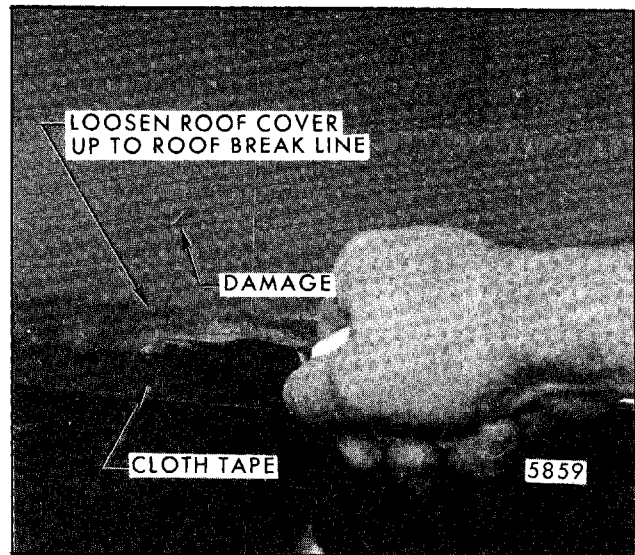

Fig. 8-58-Loosening Edge of Roof Cover
3. Using pliers or similar tool, carefully loosen edge of roof cover up to roof break line (Fig. 8-58).